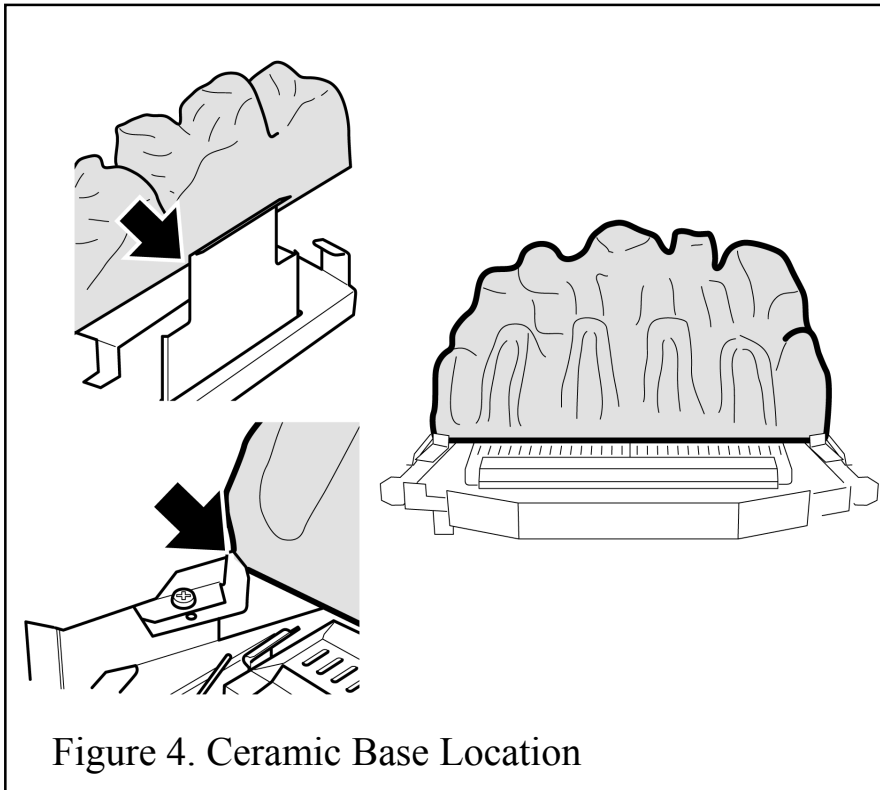

Figure 4. Ceramic Base Location
1. Place the ceramic base coal in the burner compartment. The bottom rear face of the coal should rest **against** the angled ledge at the back of the burner tray. ***The coal does not rest on top of the angled ledge.*** The bottom front edges of the coal base should locate against the left and right hand side brackets. (See figure 4).